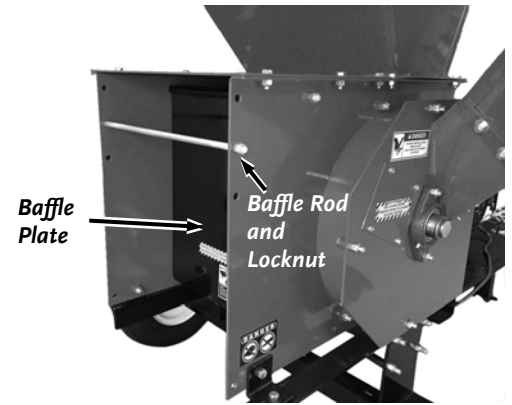

Figure 6
1. Using 9/16" Wrenches, remove the Baffle Rod and Locknut (**Figure 6**).